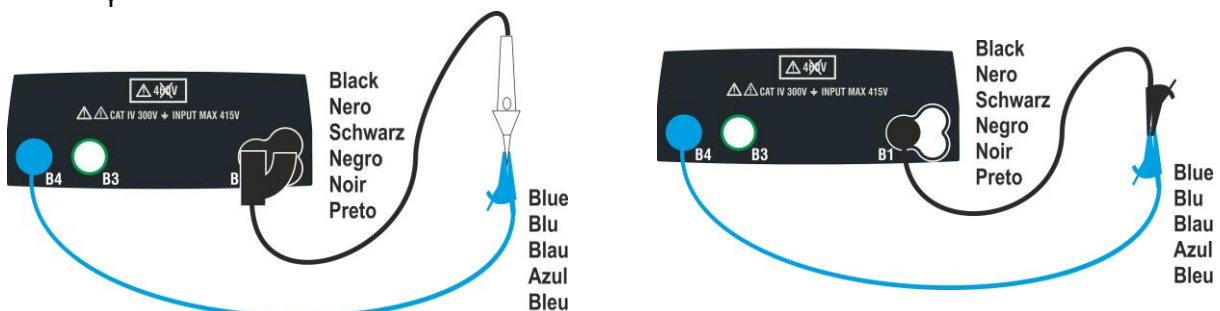

Fig. 12: Compensation of single cables and remote switch probe resistance
2. Connect the alligator clips and/or test leads and/or remote switch probe to the conductor to be tested as indicated in Fig. 12.